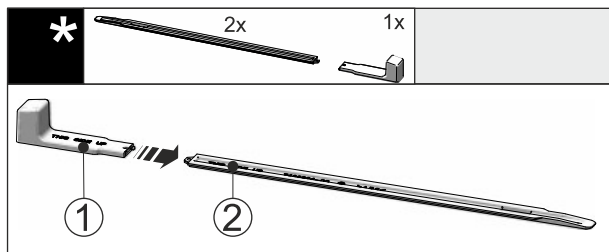

Fig. 49
- Attach the installation handle Fig. 49 (1) to the levelling rail Fig. 49 (2).